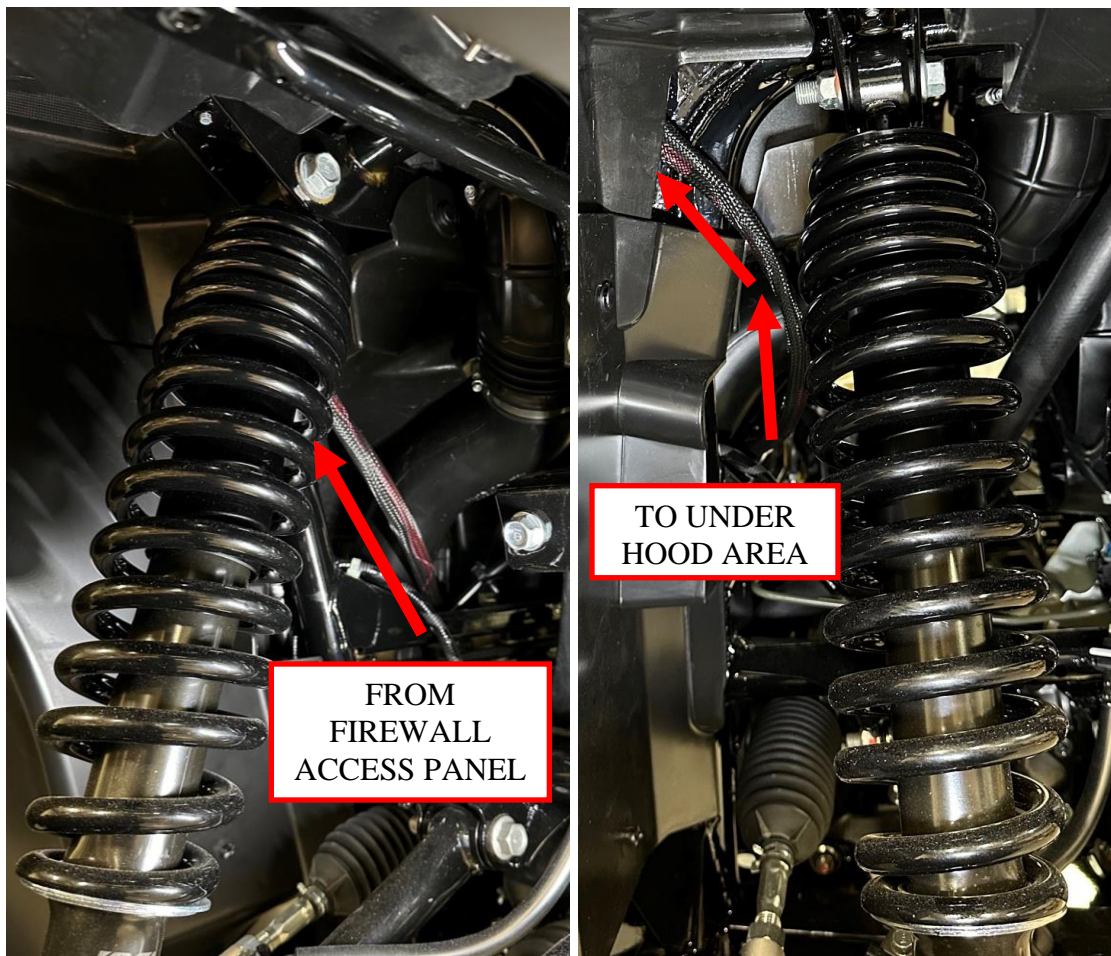

Figure 18: Feed the harness up to the under hood area.
14. Reach through the passenger side wheel well, and feed the harness through the lower firewall cover, into the upper firewall opening behind the passenger side shock, and up to the under hood battery compartment. See Figure 18.